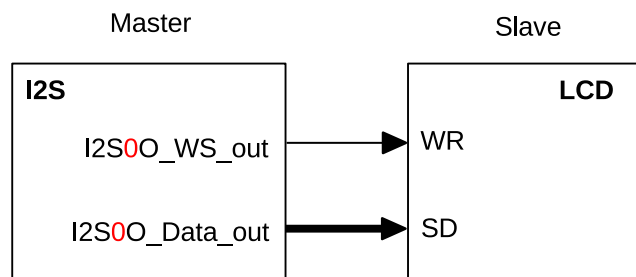

Figure 8-12. LCD Master Transmitting Mode
As shown in Figure 8-12, LCD WR signal is connected to I2S WS signal. The data width can be set to 8/16/24 bits (parallel), depending on the configuration of `I2S_TX_BITS_MOD[5:0]`.
2. Configure signal pins according to Table 40 and Figure 8-12.